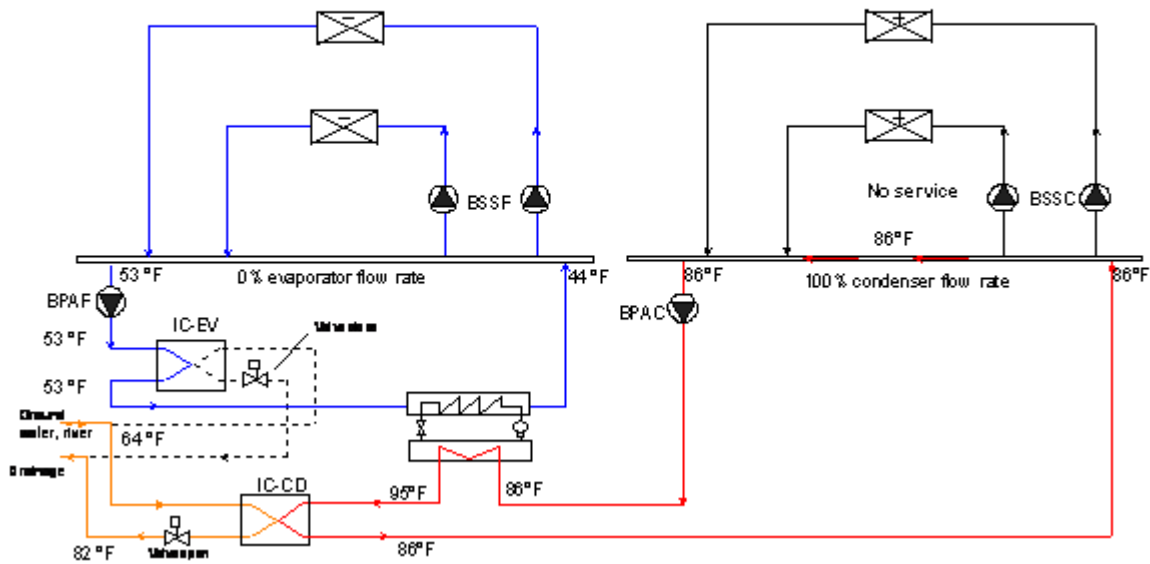

Figure 31. Loop-to-Loop Heat Pump Cooling Only
1. Cooling only (Figure 31) – In this mode, the chiller tracks the demand of the chilled-water loop. The heat is rejected from the hot-water loop to the well-water loop via heat-exchanger IC-CD. The heat-exchanger is controlled to maintain a leaving hot-water temperature of approximately 85°F (leaving the heat-exchanger; entering the chiller condenser).